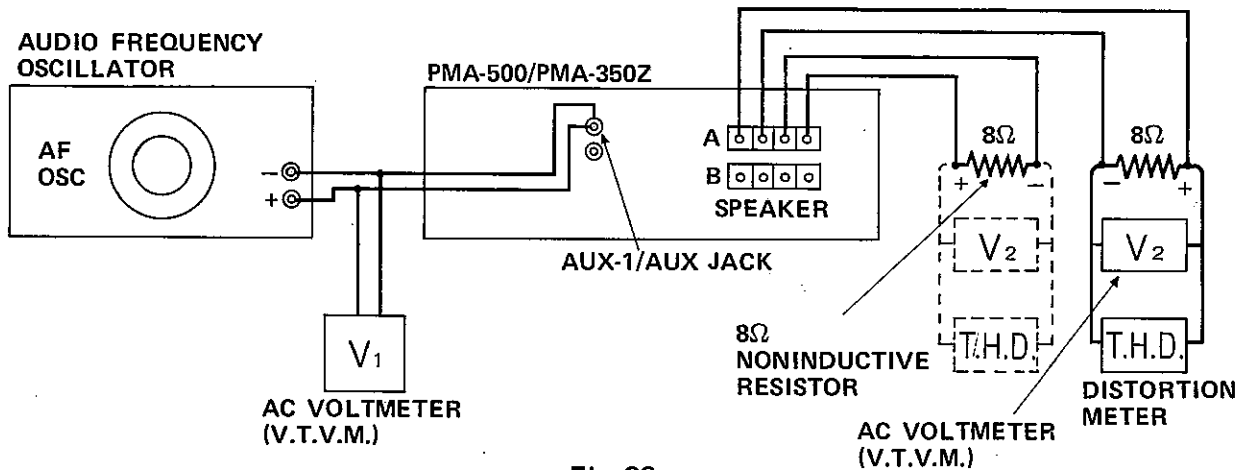

Fig. 22
- B. Connection of other instrument refer Fig. 22.